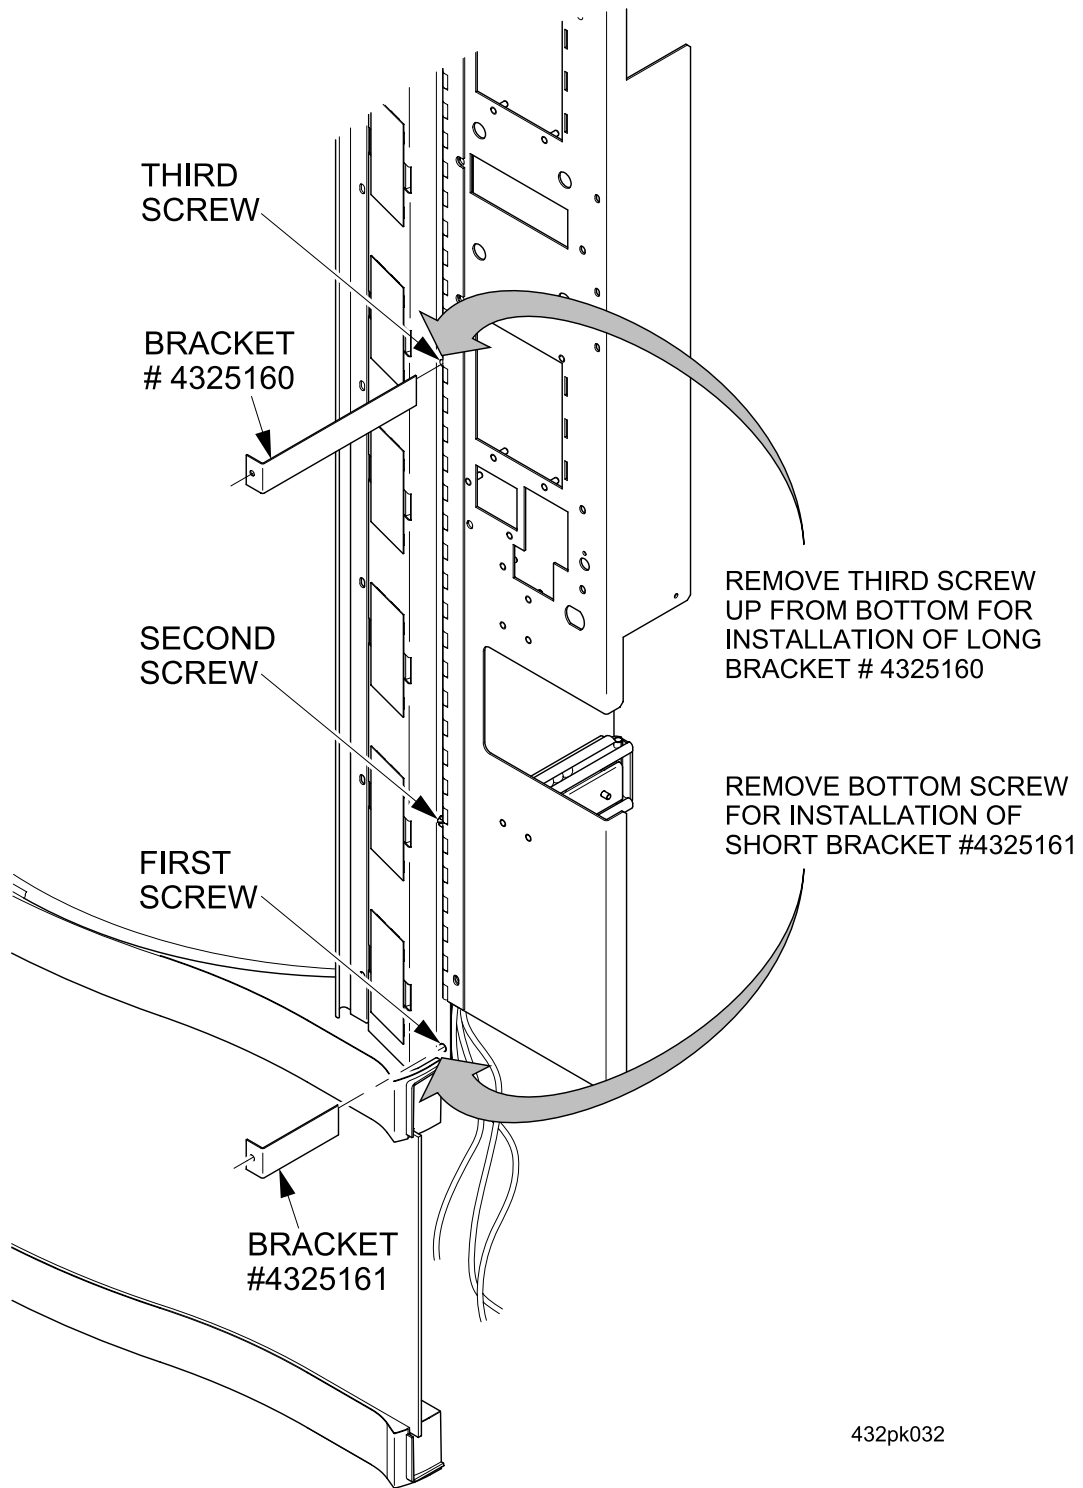

Figure 2
6. Install the long monetary bracket part #4325160 by sliding the bracket in from the front of the machine between the monetary panel and price display over the cover and secure the bracket with the middle price display screw that was removed earlier. (See Figure 2 Page 3)